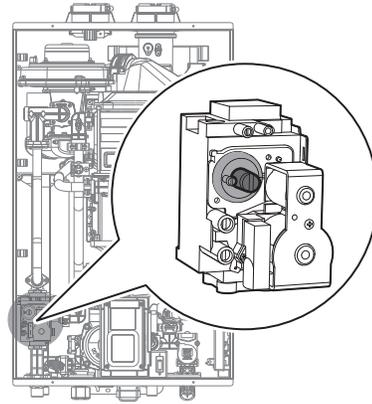

Figure 8. Set Screw Location
- c. Fully open several hot water fixtures and set the water heater to operate at 1-stage MIN mode (refer to page 39). Measure the CO₂ value at low fire. If the CO₂ value is not within 0.5% of the value listed in Table 2, the gas valve set screw will need to be adjusted. If adjustment is necessary, locate the set screw as shown in Figure 8. Using a 5/32" or 4mm Allen wrench, turn the set screw no more than 1/4 turn clockwise to raise or counterclockwise to lower the CO₂ value.